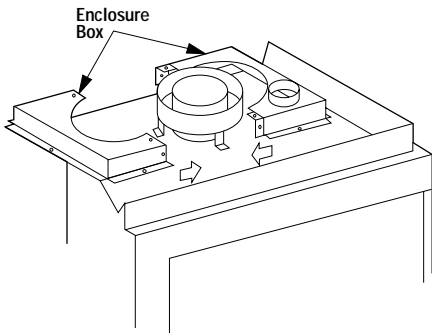

Figure 10
Step 4. Attach the chimney collar enclosure kit, Model CCK1, around chimney collar with the screws provided (Figure 10).